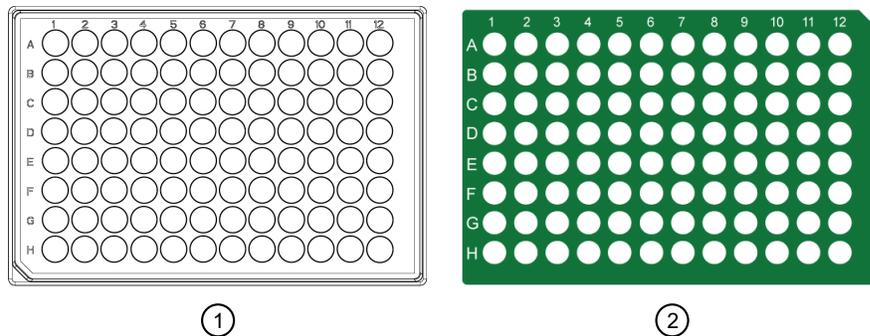

Figure 2 Aliquot genomic DNA to Amplification Sample Plate and mPCR Sample Plate.
1. Aliquot 20 μL of each diluted gDNA sample to the round deepwell plate shown in Figure 2.
1. Aliquot 10 μ L of each diluted gDNA sample to the 96-well PCR plate as shown in Figure 2. The Amplification Sample Plate must be identical to the mPCR Sample Plate in terms of sample placement.